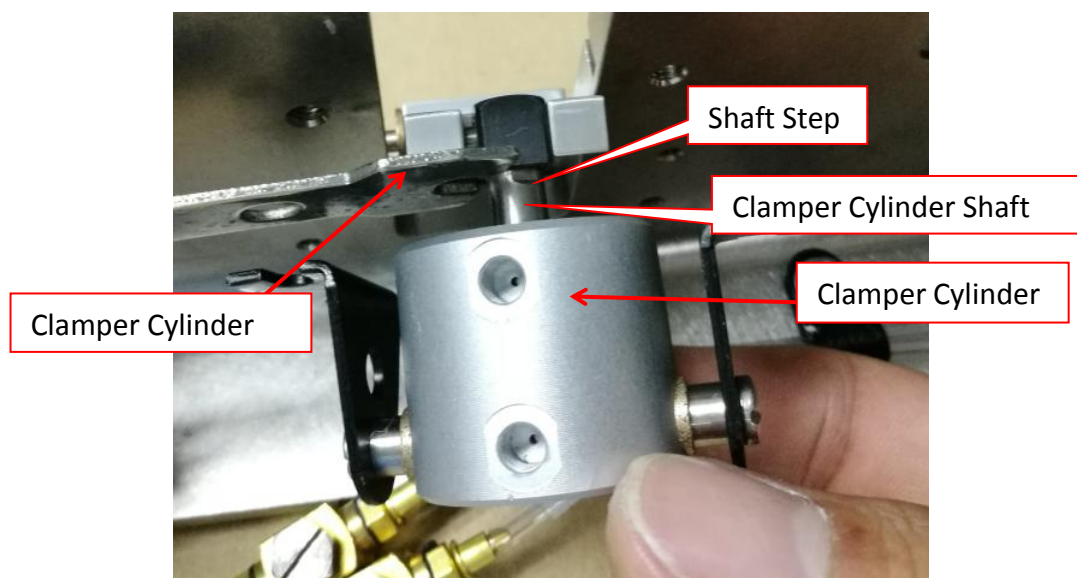

Figure 9 Clamper Cylinder Removal
10. Gently slot Clamper Cylinder Jig into "Shaft Step". While hold on Clamper Cylinder & rotate Clamper Cylinder Shaft in Anticlockwise Direction. May refer to Figure 9 & 10